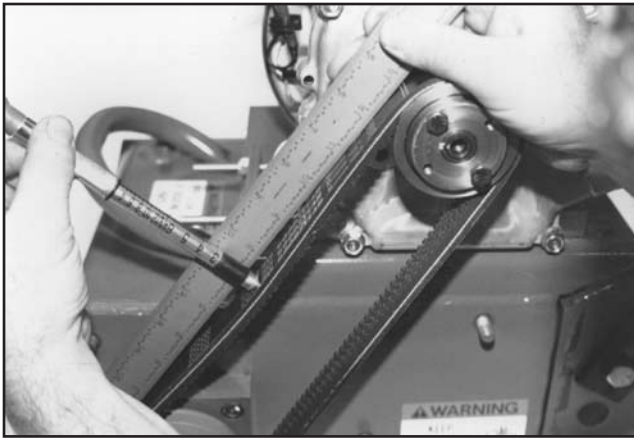

FIGURE 28
4) Check belt tension using the spring scale or belt tension tool midway between the engine and driveshaft pulleys. Belt deflection should measure approximately 3/16 inch at 3-7/8 to 5-1/2 lbs force. FIGURE 28. If tension is within specifications, proceed to Step 5. If tension is not within specifications, refer to **INSTALLING A REPLACEMENT V-BELT OR PULLEY** for specific information.